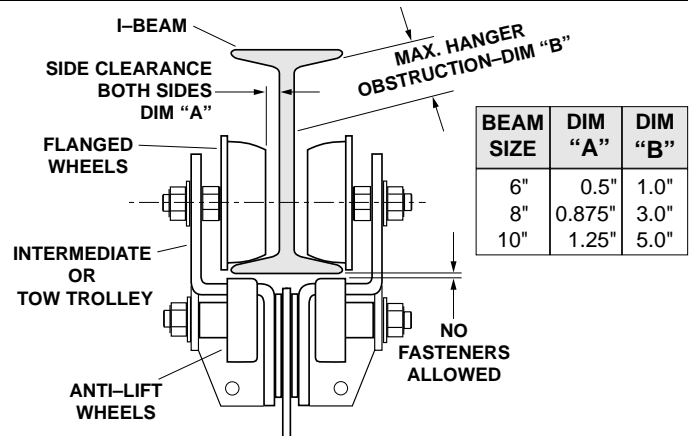

FIGURE 2-TROLLEY CLEARANCE
1. Mount I-beam track to any suitable framework that is strong enough to support the entire weight of the festoon system (weight of I-beam, hanging hardware, trolleys and cables or hoses which will be carried by the festoon). Make sure hardware used for hanging I-beam will not interfere with free trolley movement. Refer to Figure 2-Trolley Clearance.
On previously installed track, check all joints and hangers for clearances shown in Figure 2.
3. Join beams by welding, keeping clearances shown in Figures 2, & 3. Use beams having the same lower flange tolerances. Grind welded joints smooth as shown in Figure 3.